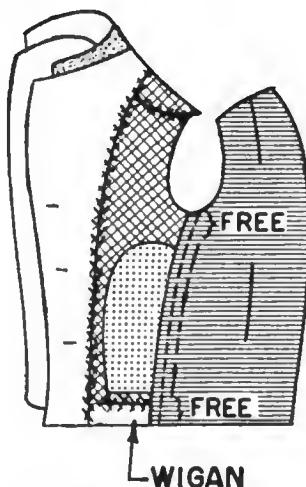

Fig. 248. Fastening the lining into the coat.
- D. Fold back the front lining and match the underarm seam of the lining to the corresponding coat seam, attaching together the lining and the garment seam edges which are pressed toward the front. Permanent-baste together with long, loose threads, leaving 2 to 3 in. free at the armseye and coat bottom. Clip the seams if they are curved. Do both the right and left sides (Fig. 248).